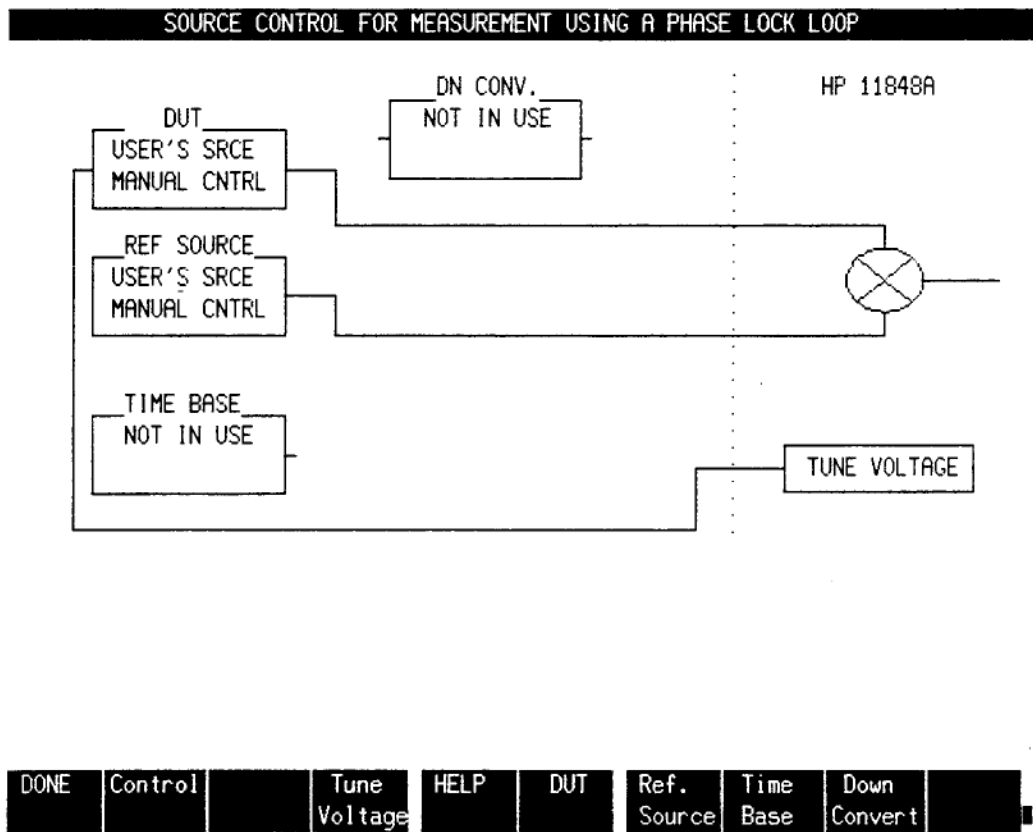

Figure 8-11. Source Control for Measurement Using a Phase Lock Loop Menu
9. On the HP 3048A press the **Source Control** softkey to obtain the Source Control for Measurement Using a Phase Lock Loop menu. Set the various devices in the system as shown in figure 8-11. When done, press the **DONE** softkey.